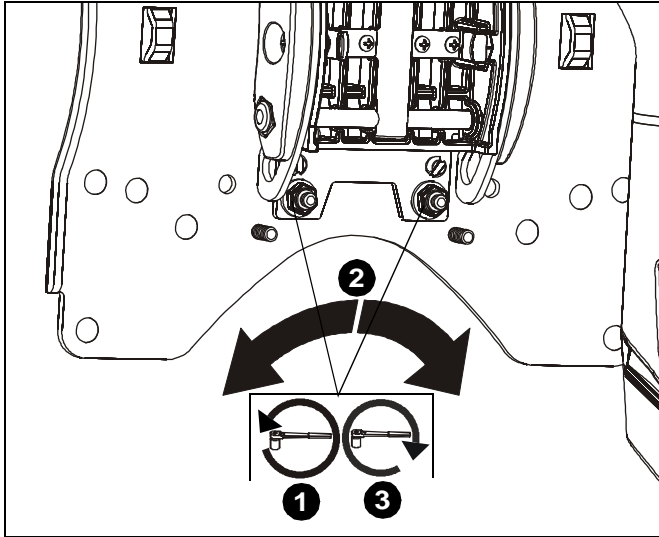

Figure 17
1. Loosen two flange nuts (N) to decrease roll tension. (See Figure 17)
2. Adjust roll position of display as desired. (See Figure 17)
3. Tighten two flange nuts (N) to increase roll tension, if desired. (See Figure 17)